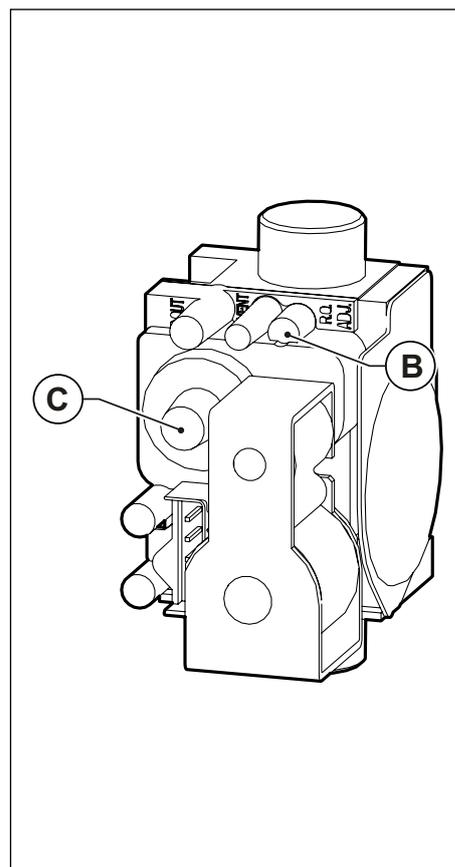

Fig. 39 Adjusting CO₂ value
- Set flue gas CO₂ content by turning the ratio adjuster **B** (see Fig. 39 Adjusting CO₂ value) and ensure that reading falls within the limits of Tab. 21 Flue CO₂ content. Let boiler flue cleaning function on and continue with the next point "Minimum heating output adjustment" .
- Set flue gas CO₂ content by turning the offset control **C** (see Fig. 39 Adjusting CO₂ value) and ensure that reading falls within the limits of Tab. 21 Flue CO₂ content.